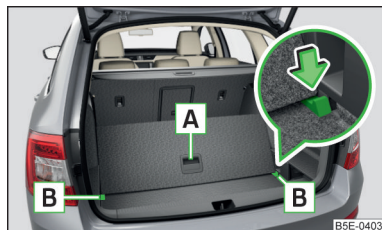

Fig. 114
- Raise the rear of the variable loading floor by the handle **A** » Fig. 114.